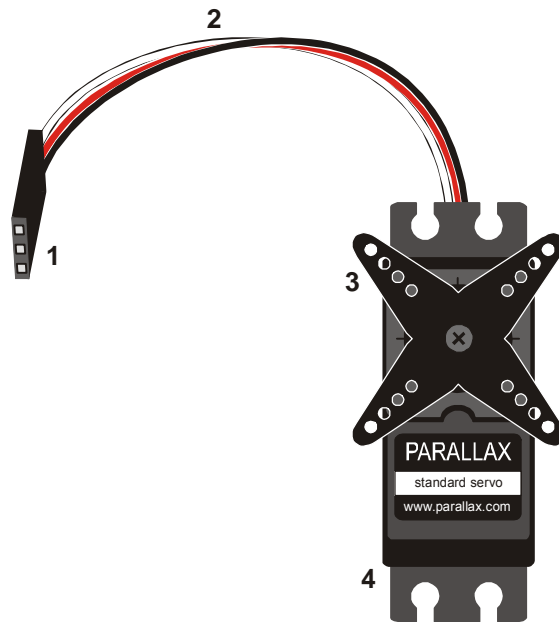

Figure 4-1
Figure 4-1 shows a drawing of a Parallax Standard Servo. The plug (1) is used to connect the servo to a power source (Vdd and Vss) and a signal source (a BASIC Stamp I/O pin). The cable (2) conducts Vdd, Vss and the signal line from the plug into the servo. The horn (3) is the part of the servo that looks like a four-pointed star. When the servo is running, the horn is the moving part that the BASIC Stamp controls. The case (4)